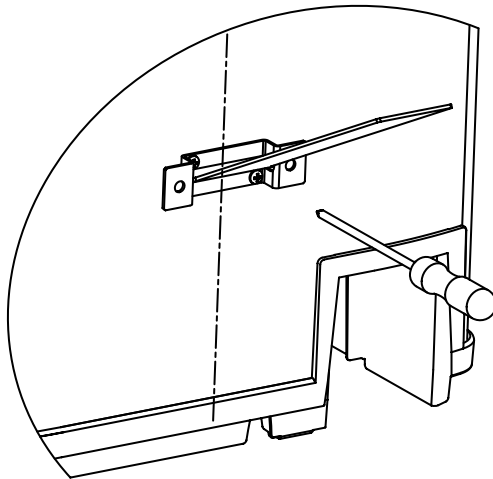

Fig.1
- 2.7 The bracket bolted to the CASE BACK of the Supreme uses the M10 x 20 set screws (2 off) supplied. The small, slotted, CASE BACK bracket is secured in position with No. 8 x ½" screws (supplied). Note orientation and slot in the case anchor strap before fitting screws (Fig. 1).